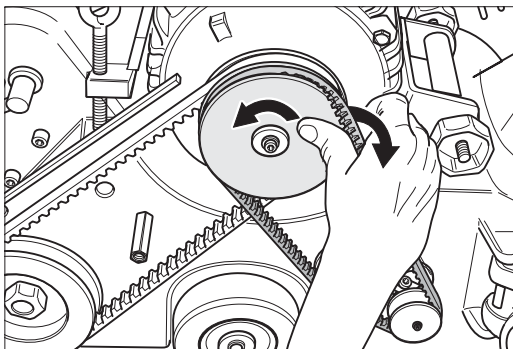

Fig. 51 Remove the suction V-belt.
- 3 Open the clamping screw of the belt tensioner for the fan V-belt, and release the tension of the V-belt before removing it (Fig. 51).